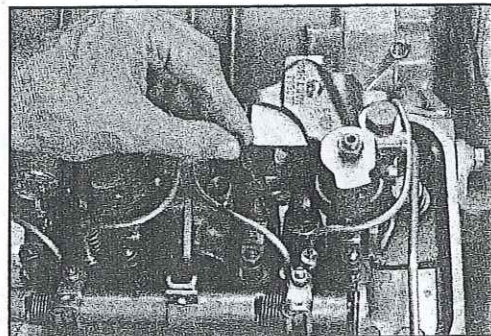

Fig. 23
3. Place the injector timing gauge in the hole provided in the top of the injector body with the flat of the gauge toward the injector follower. See Fig. 23.